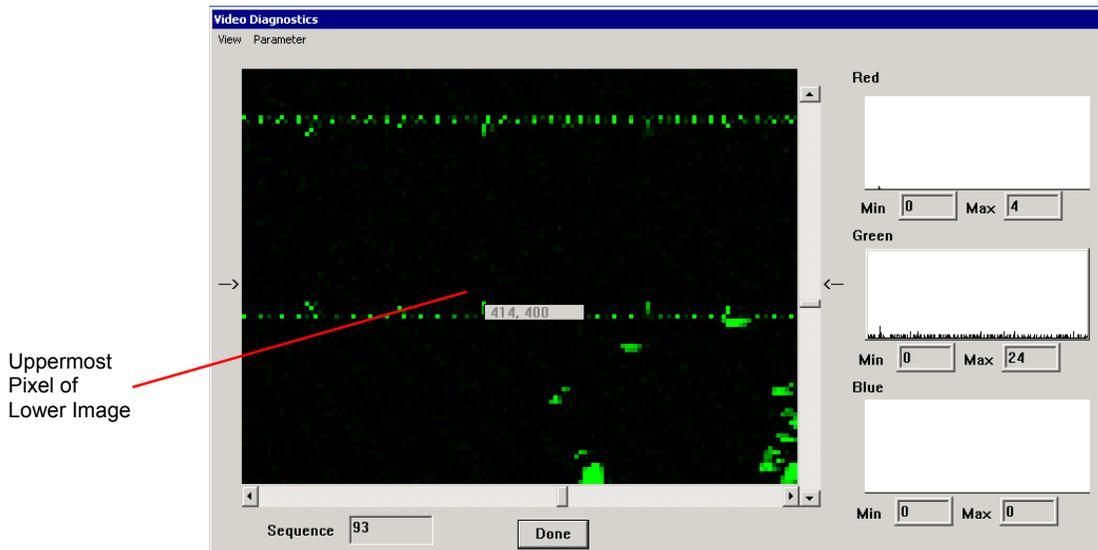

Figure 10-11 - Uppermost Pixel Coordinates - Lower Image
6. Once these coordinates have been found, scroll down to the lower image and find its uppermost pixel (see *Figure 10-11 - Uppermost Pixel Coordinates - Lower Image.*)